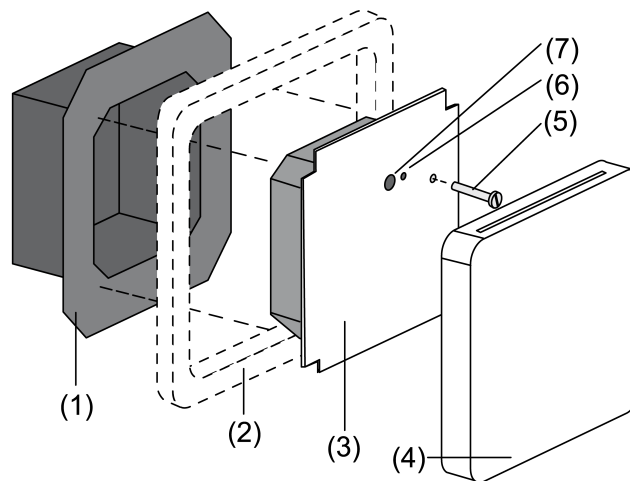
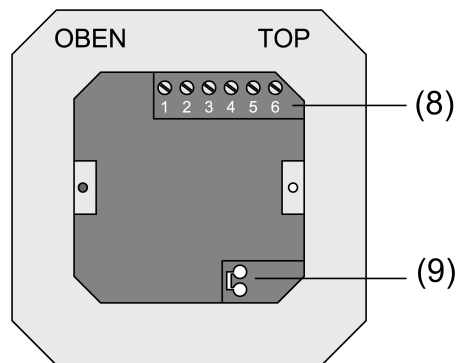
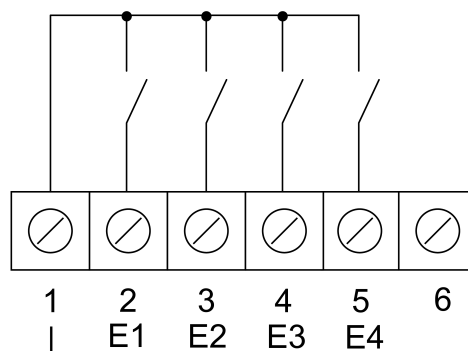
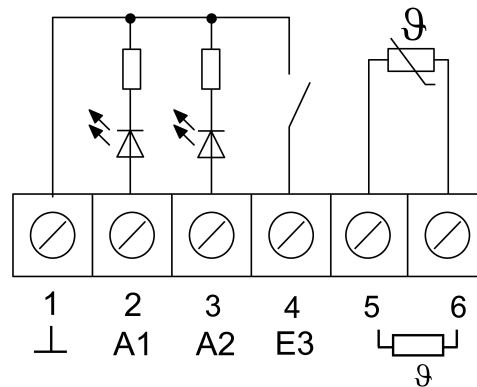

Figure 1
Figure 2
Figure 3
Figure 4
- Separate the connection terminal insert (1) and the electronics cover (3) (see figure 1).
- Connect the bus line to the device connection terminal (9) in the connection terminal insert (see figure 2).
- Binary inputs **E1...E4**: Connect the NO or NC contact as switch or push-button to the connection terminals 1 and 2...5 (see figure 3) of the terminal strip (8) (see figure 2).
- Binary outputs **A1...A2**: Connect the LED or electronic relay to the connection terminals 1 and 2, 3 (see figure 4) of the terminal strip (8) (see figure 2).
- Connect the external temperature sensor to the connection terminals **5** and **6** (see figure 4) of the terminal strip (8) (see figure 2).
- Insert the connection terminal insert (1) (see figure 1) in the flush-mounted appliance box. Observe the labelling **OBEN / TOP**. The bus connection (9) (see figure 2) must be at the bottom, right.
- Fit the cover frame (2) on the connection terminal insert (1) (see figure 1).
- Insert the electronics cover in the correct position into the connection terminal insert (see figure 1).
- Remove the cover (4) (see figure 1).
- Fasten the electronics cover with the retaining screw (5) (see figure 1).
- Reattach the cover (4) (see figure 1).
- Press the programming button (7) (see figure 1).
The programming LED (6) is illuminated (see figure 1).
The programming LED (6) goes out (see figure 1).